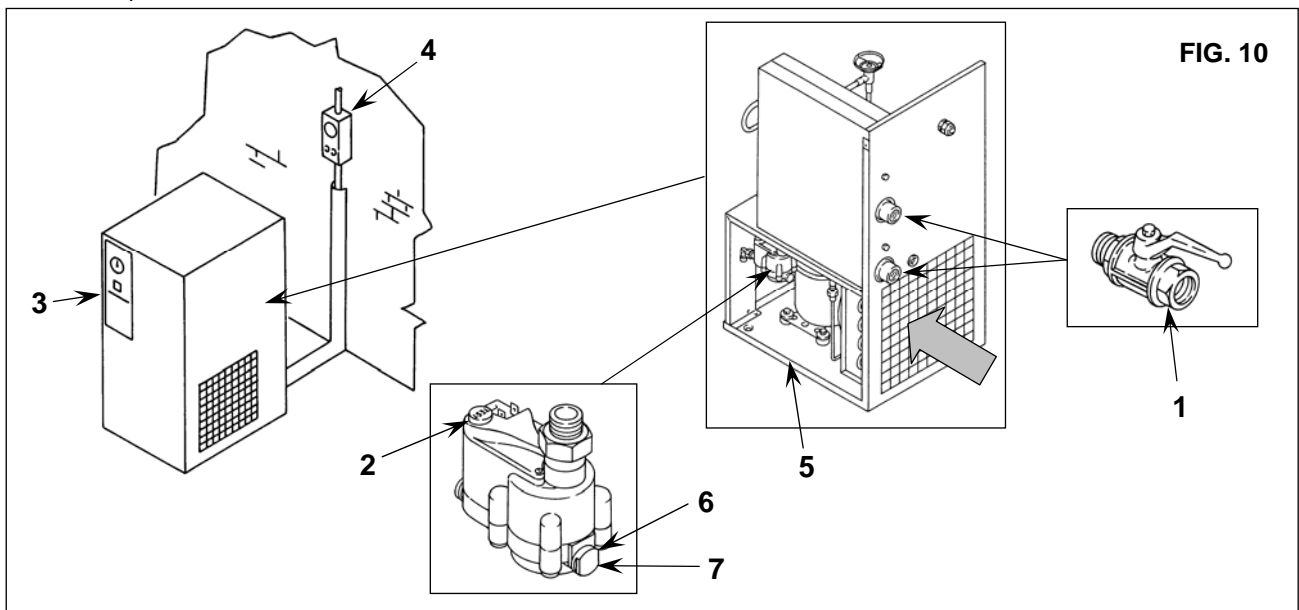

FIG. 10
15.2 CLEANING OF THE AUTOMATIC CONDENSATE DISCHARGER FILTER (Fig. 10)
- Close the cock Ref. 1 Fig. 10
- Release the pressure in the dryer by pressing the condensate drain "TEST" pushbutton locate on the steam trap Ref. 2 Fig. 10.
- Switch off the machine by pressing the STOP button Ref. 3 Fig. 10
- Turn on the supply automatic differential switch Ref. 4 Fig. 10
15.3 CLEANING THE CONDENSER (Fig. 10)
- Remove the panels Ref. 5 Fig. 10
- Clean the condenser fins Ref. 1 with compressed air (Fig. 10) **DO NOT USE WATER OR SOLVENTS**
- Close the panels Ref. 5 Fig. 10